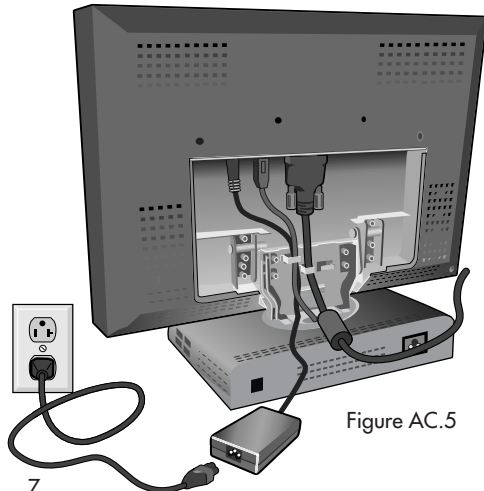

Figure AC.5
6. Reattach the bottom panel to the stand. To connect the AC Adapter outside of the stand, plug the AC Adapter cord to the back of the monitor "DC in" (Figure AC.5).